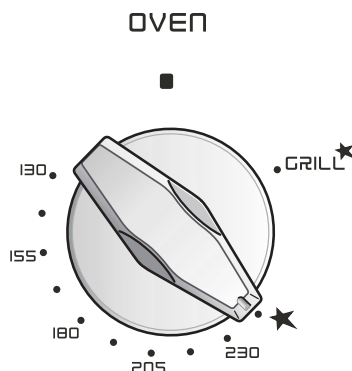

Fig. 18
2) Lightly press and turn the thermostat knob anti-clockwise to max position “★” (fig. 18).